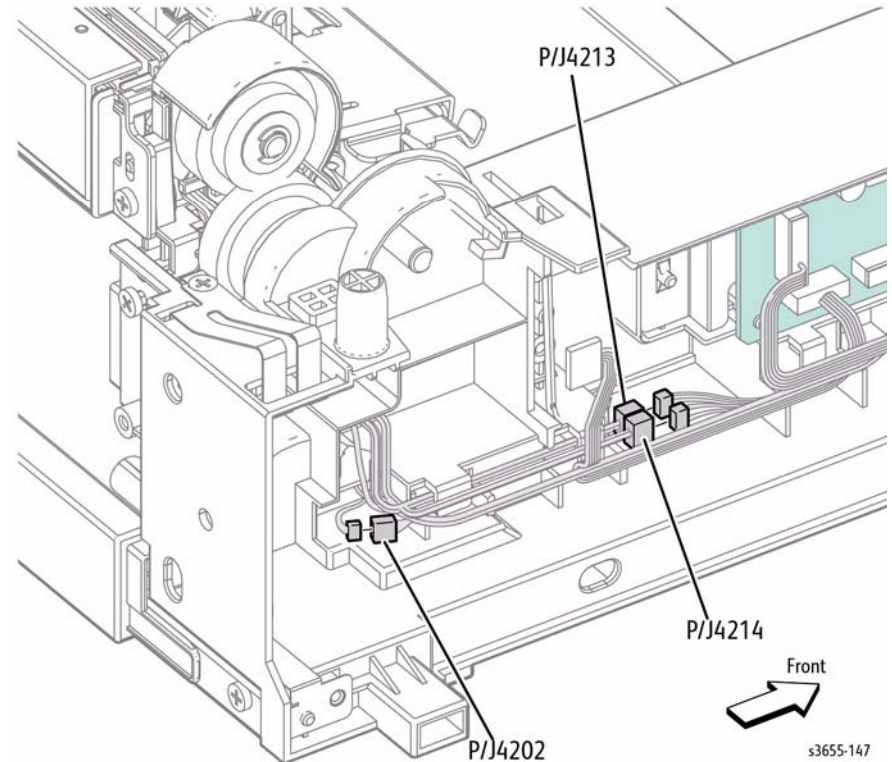

Figure 1 Disconnect the Feed Assembly
6. Refer to Figure 1 to locate and disconnect the Feed Assembly.